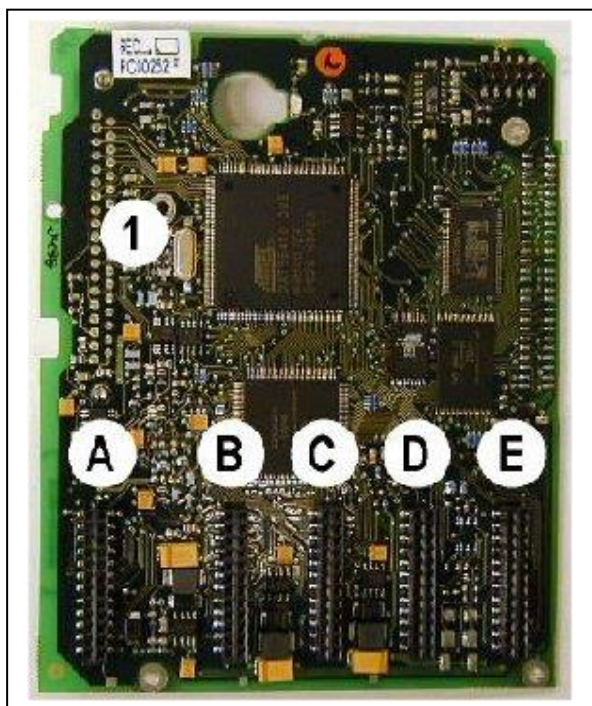
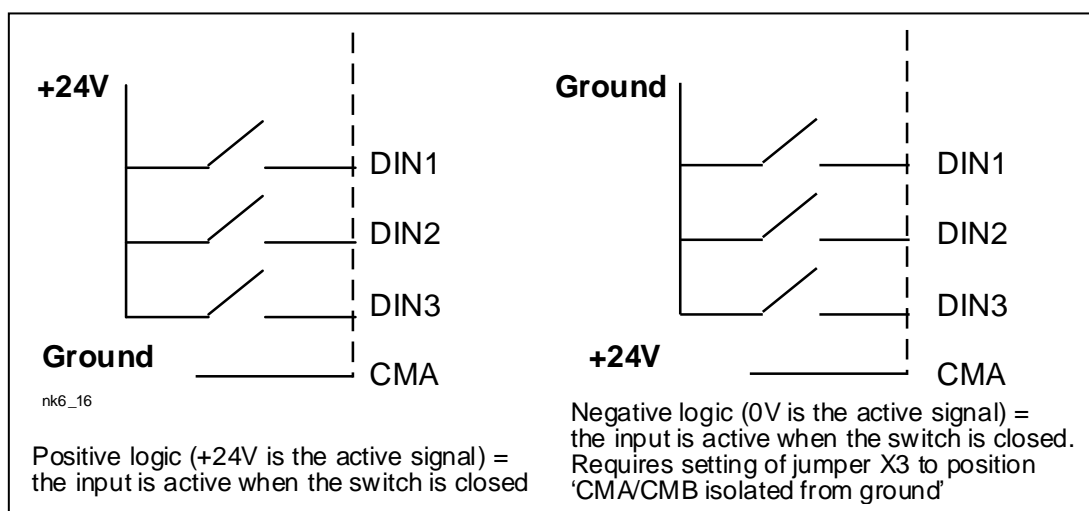

Figure 6-13. control board
Figure 6-20. Positive/Negative logic
The control unit of the inverter consists of the control board and option boards (see Figure 6-13 and Figure 6-20) connected to the five slot connectors (A to E) on the control board. The control board is connected to the power unit through a D connector (1).
The active signal level depends on which potential the common inputs CMA and CMB (terminals 11 and 17) are connected to. The alternatives are either +24V or ground (0 V). See Figure 6-20.